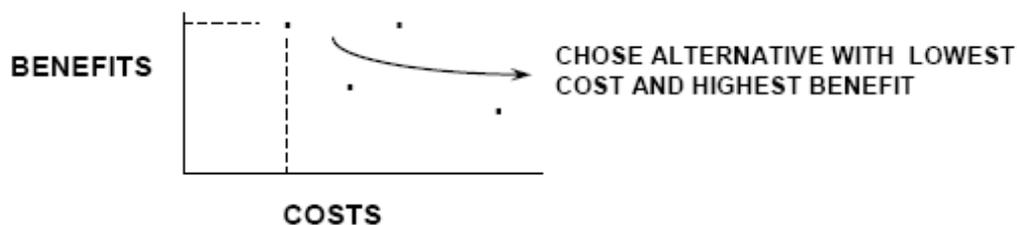

Figure 8.4: Benefits to costs ratio
- i. Graphing benefits and costs of each alternative (figure 8.4)